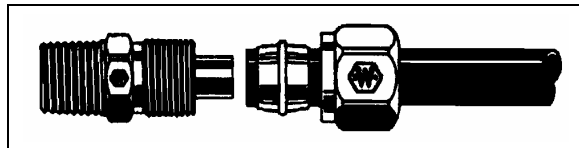

FIGURE 51: HOSE FITTING
**NTA-Type Plastic Tubing:** Hand tighten nut (Fig. 51). From that point, tighten using a wrench the number of turns indicated in the following chart.